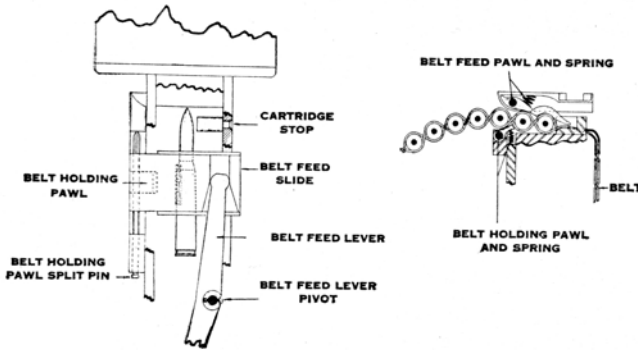

FIGURE 12.—Belt feed mechanism.
■32. FIRST ACT OF FEEDING (fig. 12).—As the bolt moves backward, the stud on the pivoted belt feed lever moves to the right in the cam groove, thus forcing the belt feed slide to the left. The belt feed pawl engages on the left of the first cartridge which is held in position by the belt holding pawl. In the event the extractor fails to, withdraw the leading round from the belt, the finger of the belt feed pawl, riding on the top of this unextracted round, will hold the feed pawl raised in a position where it cannot engage on the left of the next cartridge. It thus prevents double feeding.
■38. SECOND ACT OF FEEDING (fig. 12) .—AS the bolt goes forward the stud on the pivoted belt feed lever moves to the left in the cam groove, forcing the slide to the right. The belt feed pawl carries the first cartridge to the right against the cartridge stops, ready to be gripped by the extractor. The next cartridge is carried over the belt holding pawl which rises behind it and holds it in position to be engaged by the belt feed pawl on its next movement to the left.